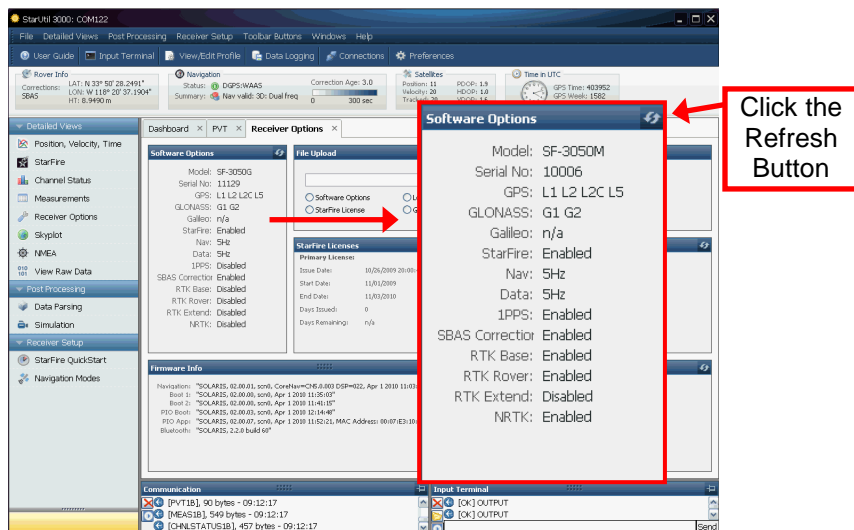

Figure 29: Software Options Window
54. Click  (refresh) on the *Software Options* window and check to ensure that all uploaded software options are displayed (see Figure 29).
65. To view all currently loaded software options, click  (refresh) on the *Software Options* window (see Figure 29).